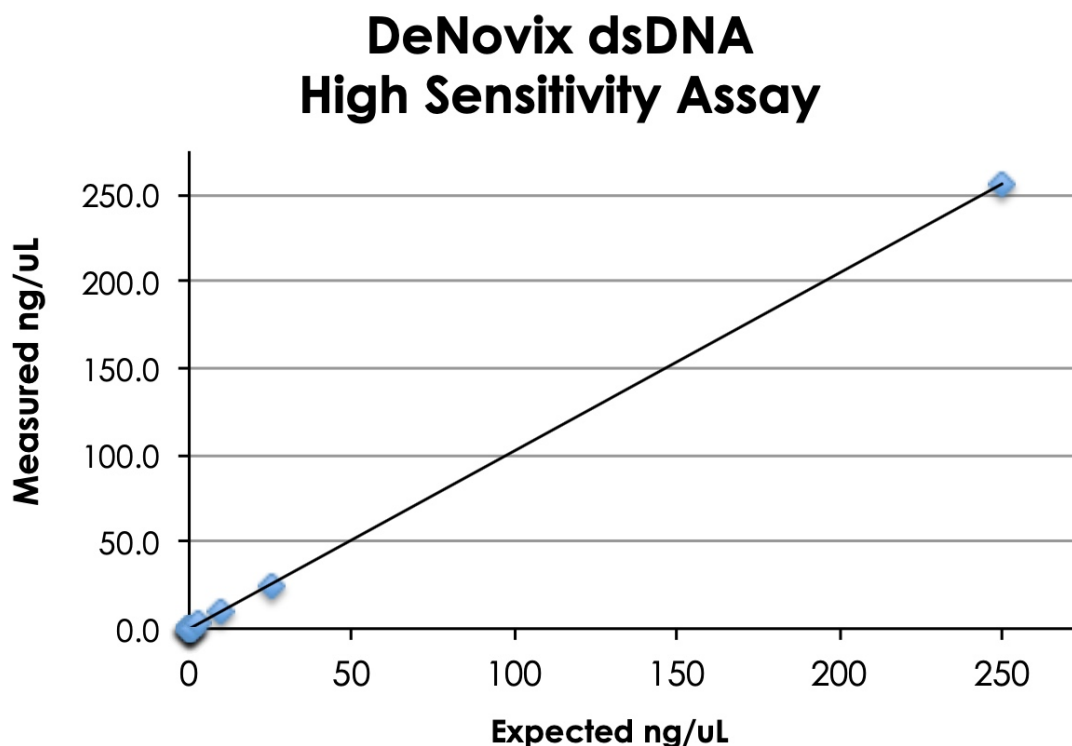

Figure 2: Calf Thymus DNA measured using the DeNovix dsDNA High Sensitivity Assay on a DS-11 FX Fluorometer.
- Plot the fluorescence RFU values for the DNA standards on the y-axis and ng/well DNA on the x-axis, and fit a trend line (Figure 2) through these points to generate a standard curve with a y-intercept = 0.